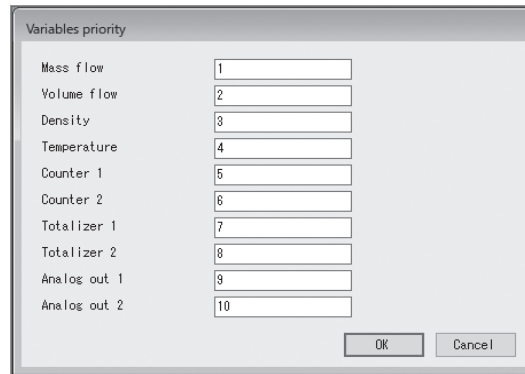

Fig.76
- ① Click "Setup (S)" > "LCD" > "Variables priority" in the menu.
- ② The following window will be displayed (Fig. 76). Set the order to be used for displaying measurement values on the LCD here.